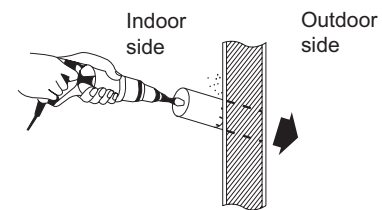

Fig. 2-159
- (4) Using a sabre saw, key hole saw or hole-cutting drill attachment, cut a hole in the wall. (Fig. 2-159)